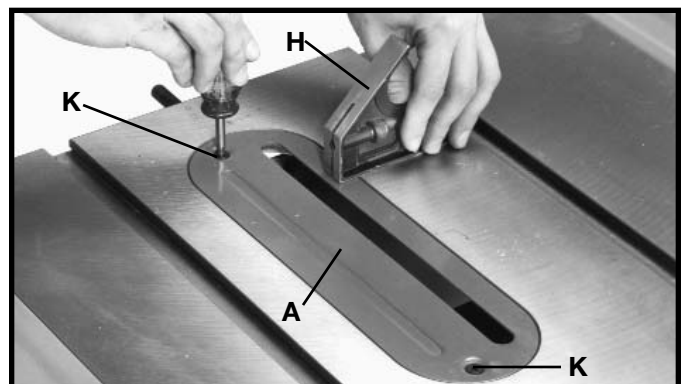

Fig. 13
5. **Replace table insert (A) Fig. 13, making certain rubber washers are in place.**
6. Place a straight edge or square (H) Fig. 13, on the saw table extending over the table insert (A) as shown, and check to see that inset is flush or just below surface of table. If an adjustment is necessary, tighten or loosen the two adjustment screws (K).